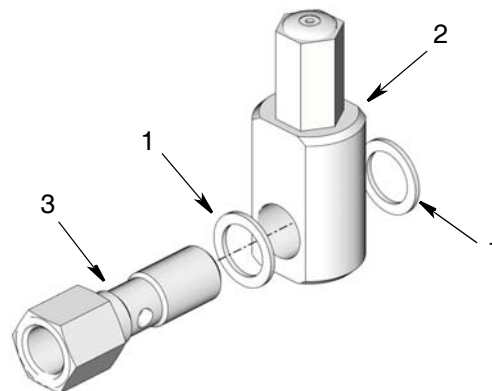

FIG. 3
5. Install one washer (1) over end banjo bolt (3). Then install banjo fitting (2) on banjo bolt, followed by the second washer (1) (FIG. 3).